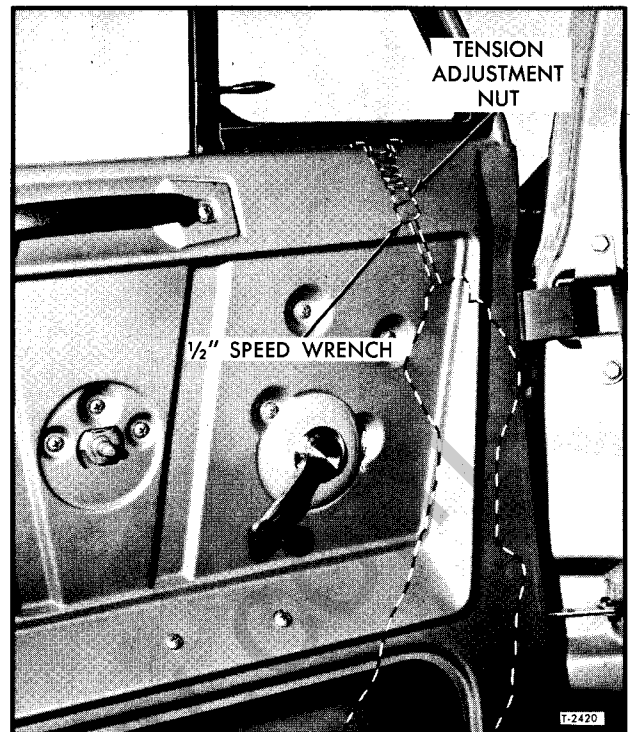

Figure 22—Adjusting Vent Window Tension
2. Reaching up through access opening in door, as shown in figure 22, turn adjustment nut with a 9/16-inch speed wrench to obtain five to seven pounds torque, while moving vent window from a ten degree open position to a full-open position. Use either a push or pull type spring scale, positioned at rear edge of vent glass. Turning adjustment nut clockwise increases operating tension.